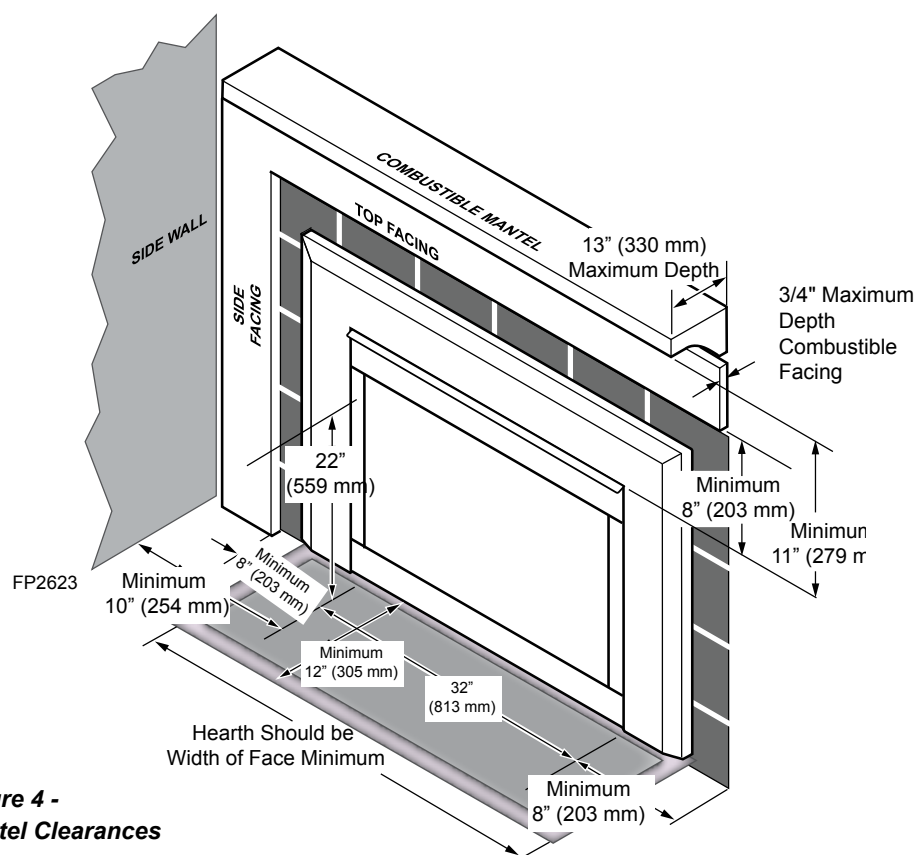

**Figure 4 -
- Minimum clearances to combustibles, such as mantels, must be maintained. *Refer to Pages 8 and 9, Figures 4 and 5.*
The dimensions shown on *Pages 8 and 9, Figures 4 and 5*, are minimum clearances to maintain when installing this heater. Follow these instructions carefully to ensure safe installation. Failure to follow instructions exactly can create a fire hazard.